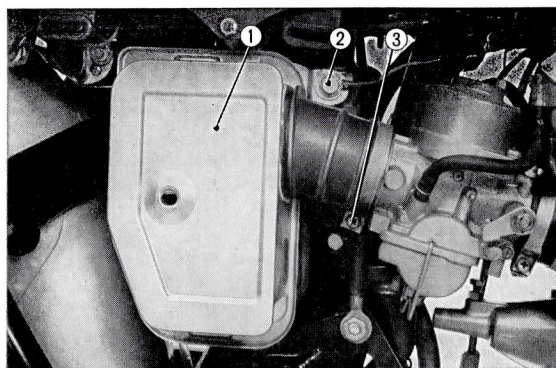

Fig. 4.57 Removing the air cleaner
3. Air cleaner element can be separated from the frame by removing the air cleaner connecting tube clamp and the air cleaner mounting bolt. (Fig. 4.57)